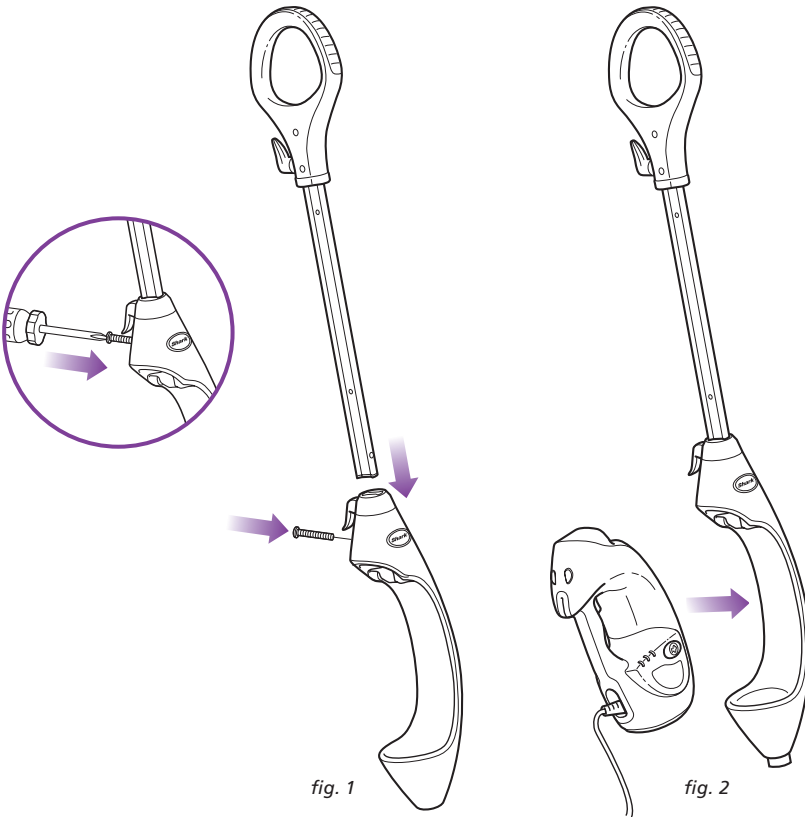

fig. 1
- 1 Insert the Mop Handle end labeled "Front" into the Steam Mop Housing. Make sure it is inserted past the line printed on the pole. Secure the assembled handle and pole by using the large screw and a Phillips or a flat head screw driver (screwdriver not included). (fig. 1)